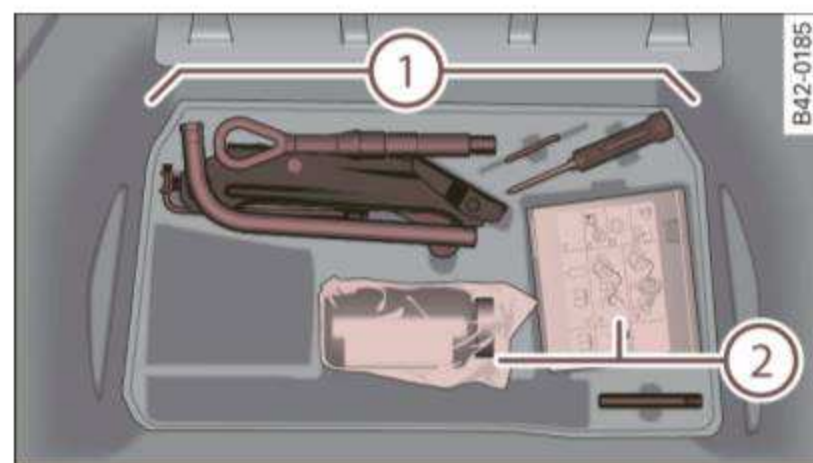

Fig. 128 Breakdown kit in luggage compartment
- Take the **sealant bottle** and the **electric air pump** from the luggage compartment under the floor ⇒ *page 232*, fig. 128.